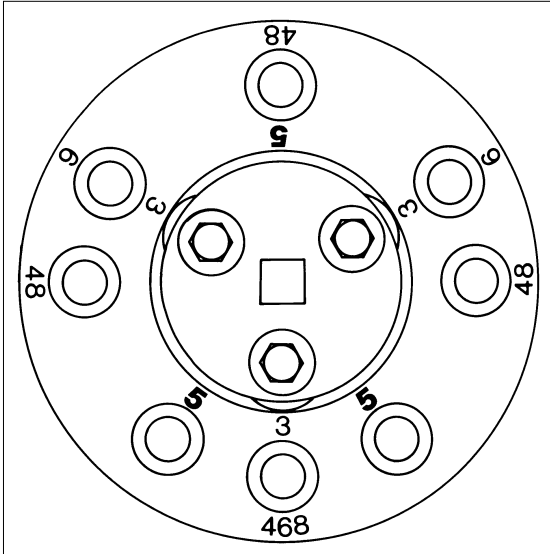

Figure 26
2. Select correct pattern on plate, Fig. 26.